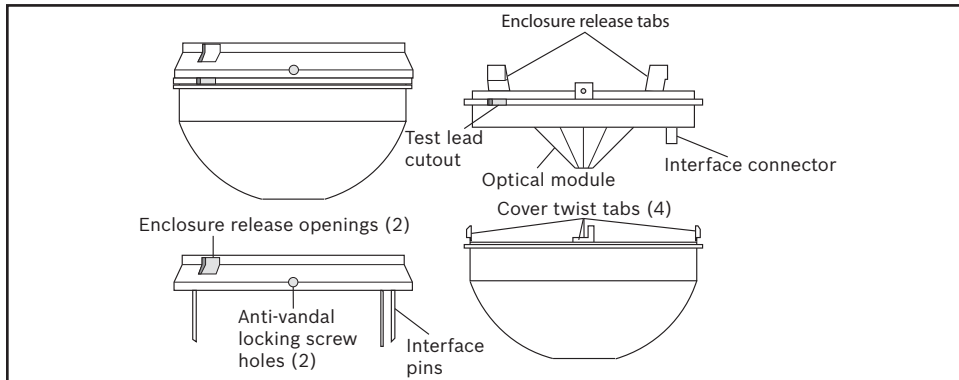

Figure 2.2: Opening cover
1. Remove the base from the enclosure by pressing the two enclosure release tabs inward while lifting the enclosure away from the base. Refer to *Figure 2.2*.